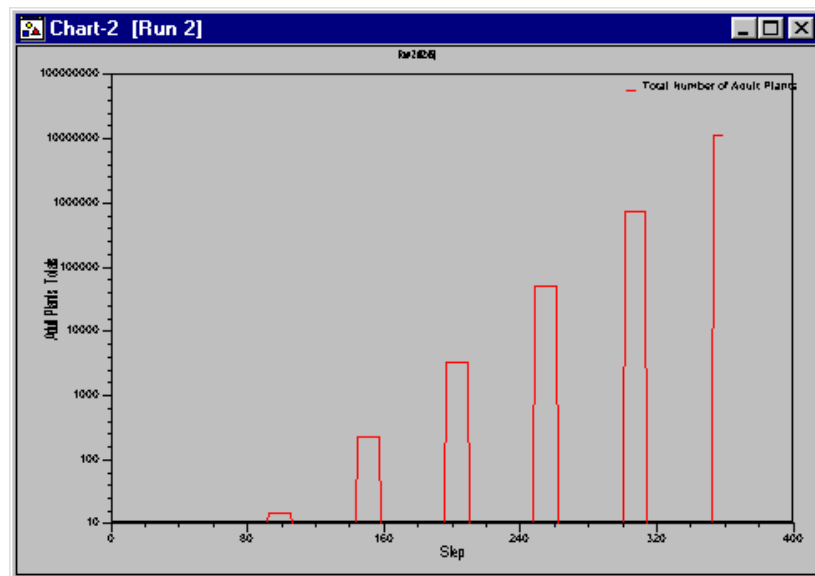

Figure 1.25 Yearly Populations of Gen-weed for a 2500 days period; logarithmic scaling.
6. Select '**OK**' on the '**Chart Specification**' window and produce the logarithmic chart of the yearly plant populations. The result should resemble figure 1.25 .